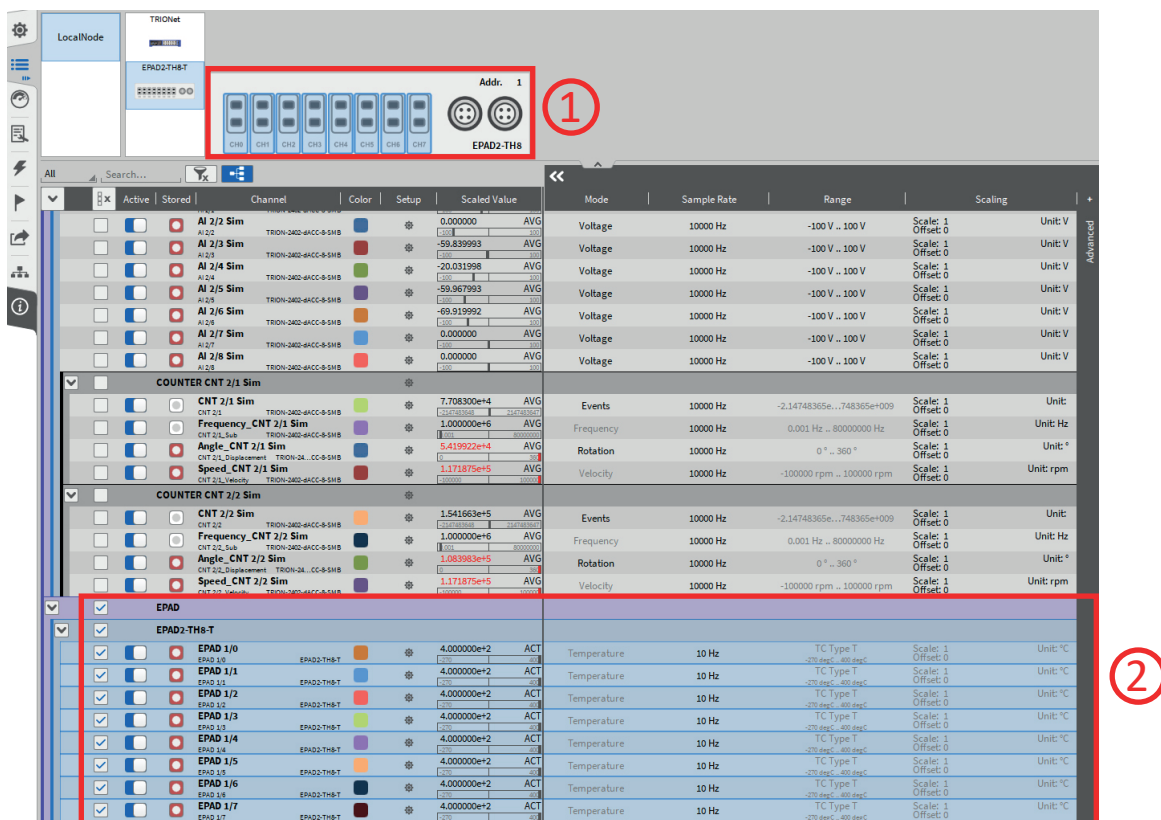

Figure 10: EPAD channel list
- > The EPAD2-module(s) are now visible in the system overview at the top of the Channel List (①) and are available in an own EPAD-channel section in the Channel List (②) (see figure 10)